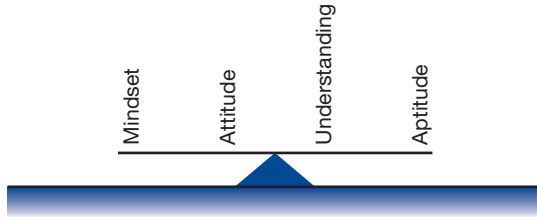

Figure 2.6 BIM balancing act.
BIM requires that decisions are made up front. Ideally, for BIM to provide the most benefit working on multiple levels or dimensions, the complete design and construction team is on board at the beginning of the project. This will be challenging for some project and client types—especially developers who want to wait to make decisions until the last moment. As for phases, design development (DD) is the new schematic development (SD), and construction documents (CD) are the new DD, so CD ought to be a breeze, especially if all major decisions are made up front. (See Figure 2.6.)